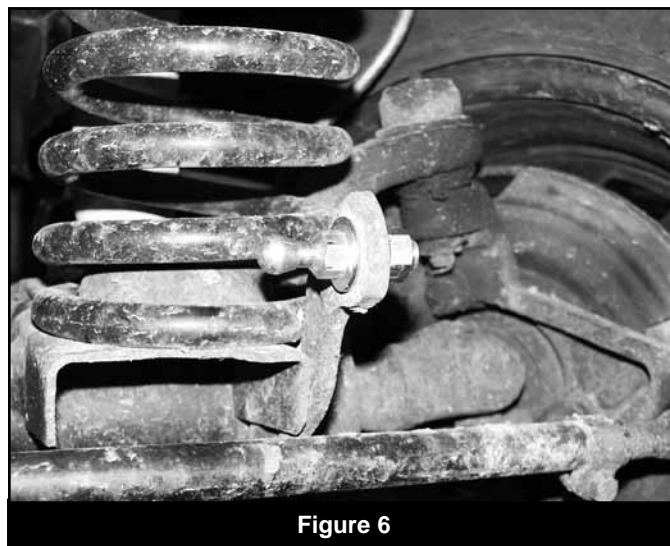

Figure 6
29. Install the new lower ball stud to the OE sway bar link axle mount with a 1/2" nut and two 1/2" SAE washers provided. The washers mount on each side of the OE mount. The ball mounts toward the inside of the vehicle (Fig 6). Torque the stud to 60 ft-lbs.